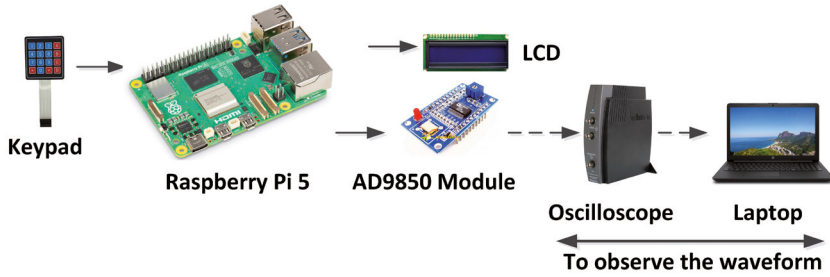

Figure 4.38: Block diagram of the project.
**Block Diagram:** Figure 4.38 shows the block diagram of the project. The keypad sets the desired frequency which is displayed on the LCD as it is entered. The generated signal waveform is output by the AD9850 module which can be displayed on an oscilloscope if desired.